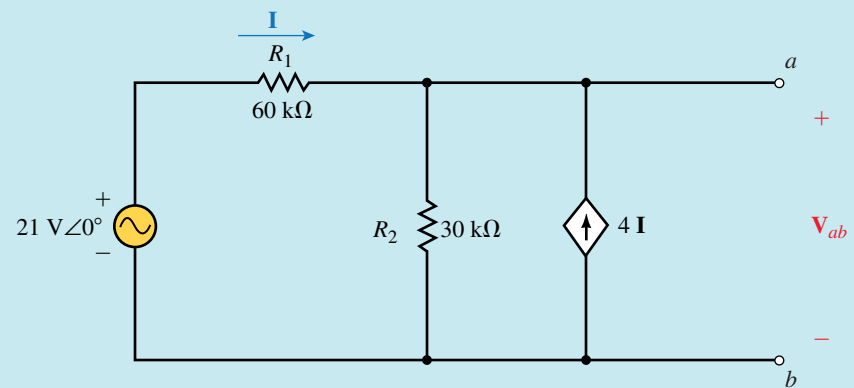

FIGURE 20-41
Step 1: After removing the load resistor from the circuit, we have the network shown in Figure 20-41.